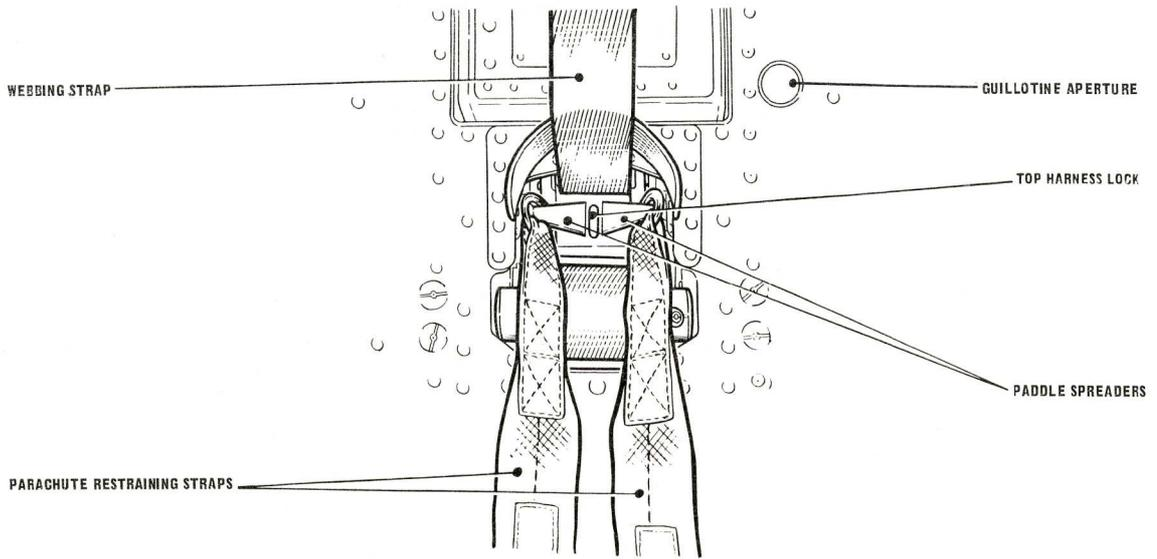
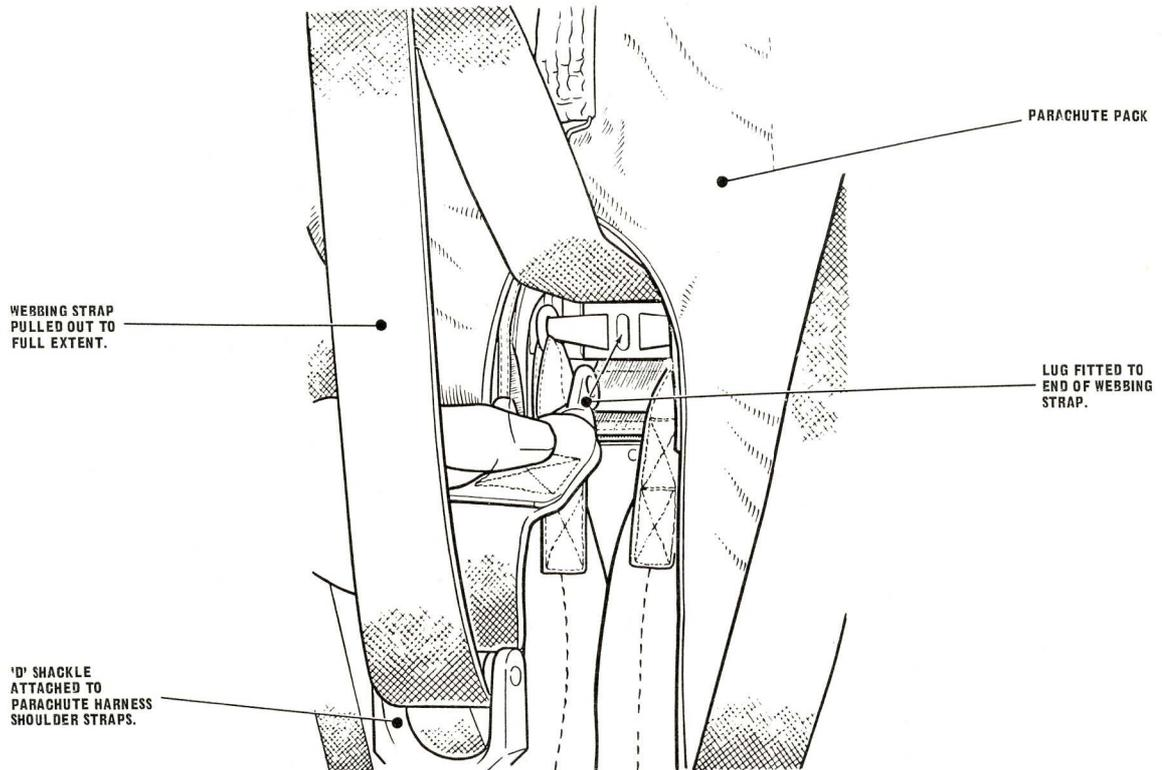

Fig. 2. Attachment of parachute restraining straps to paddle spreaders
Fig. 3. Insertion of lug into top harness lock
- (3) Ensure that the seat pan is clean and that the leg restraint cords are clear of the seat pan.
- (4) Open the paddle spreaders, situated in front of the top harness lock and pass the O rings of the two parachute restraining straps over the paddle spreaders, one over each spreader. Ensure that each O ring is pushed well back towards the pivot end of its paddle spreader, and close the paddle spreaders inwards towards each other as far as they will go (*fig. 2*).
- (5) Place the parachute pack in the parachute container, guiding the static line for the guillotine through its aperture in the back plate. Push the pack well into the container so that it is supported on the support bracket. Bring the two parachute restraining straps through the arch of the pack, ensuring that they are not crossed.
- (6) Ensure that the manual separation handle is in the locked position.
- (7) Move the 'go-forward' lever to the fully forward position and then release it to the centre position. Pull out the webbing strap from under the parachute support bracket and hold it against the spring tension.
- (8) Pass the webbing strap DOWNWARDS through the D-shackle attached to the harness shoulder straps, ensuring that the harness straps are not twisted. Insert the lug, fitted to the end of the webbing strap, between the inner extremities of the paddle spreaders into the top harness lock in the back of the seat (*fig. 3*). Push the lug in until it locks into position. It may be necessary to partially depress the harness release lever, situated below the barostatic time release unit, to facilitate the insertion of the lug. Check that it has locked correctly by pulling on the webbing strap. Move the 'go-forward' lever to the rear position and allow the strap to wind back.
- (9) Connect the two halves of the parachute withdrawal line/link line coupling. Open the yellow gate on the top of the guillotine and route the parachute withdrawal line through the aperture in the guillotine. Close the yellow gate and ensure that it correctly retains the parachute withdrawal line. Only sufficient line to permit the connection should be withdrawn from the parachute.
- (10) Draw the free ends of the parachute restraining straps forward through the arch of the parachute pack, over the pack, and towards the rear of the seat, on either side of the drogue container.